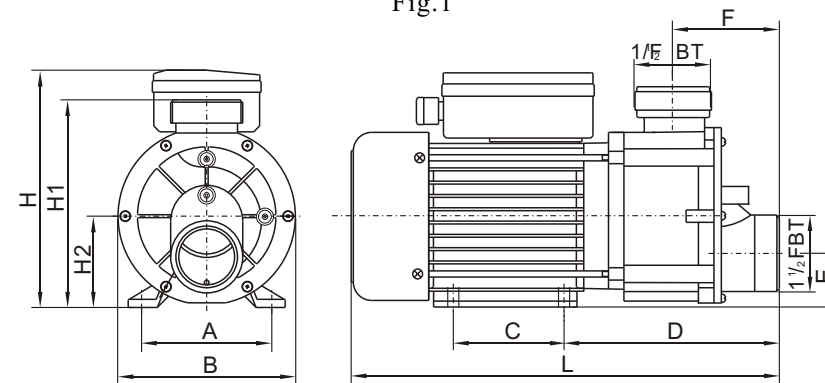

Fig.2
– Pumps must be level installation, Dimensions and position of the pump for supporting and fixing the pump within this space (Fig.2).